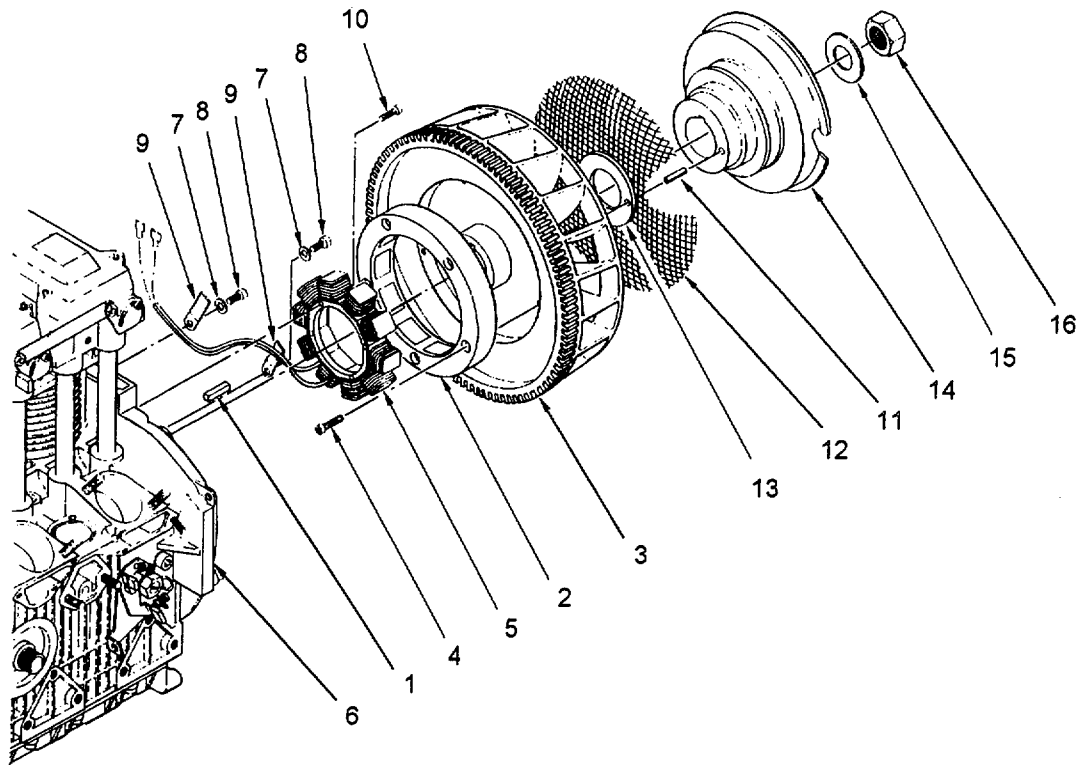

Figure 6-41. Flywheel/Alternator Installation
6.4.14 Install Flywheel/Alternator Rotor and Stator. (Refer to figure 6-41.)